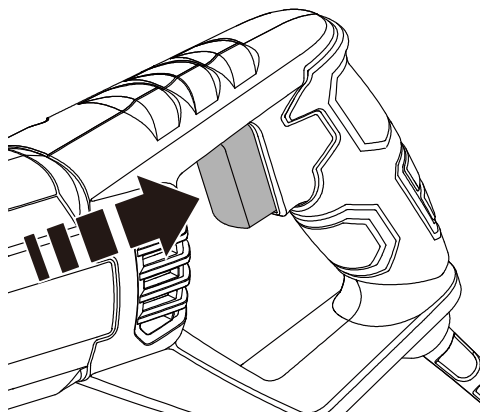

Figure 4
3. SWITCHING ON AND OFF (SEE FIG. 4)
4. VARIABLE SPEED CONTROL (SEE FIG. 4)